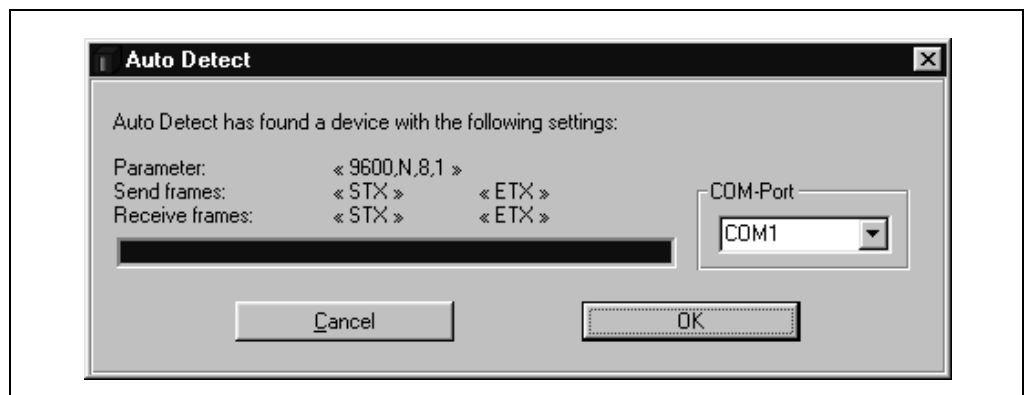

Fig. 10-1: CLV Setup: results of the AutoBaud detect function
2. Click  (AutoBaud detect) in the toolbar or choose OPTIONS, AUTOBAUD DETECT. CLV Setup scans the serial interface by varying the communication parameters and sends a telegram to the MUX 400 repeatedly. As soon as a reply from the MUX 400 is detected, CLV Setup conveys the values found for the communication parameters. Fig. 10-1 shows an example of the AUTOBAUD DETECT result display. CLV Setup displays "Connected" in the status bar on the bottom, right-hand side.